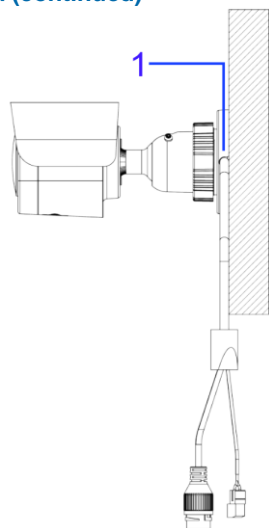

Figure 5
- the cable side entry on the mounting bracket (1) (Figure 5).